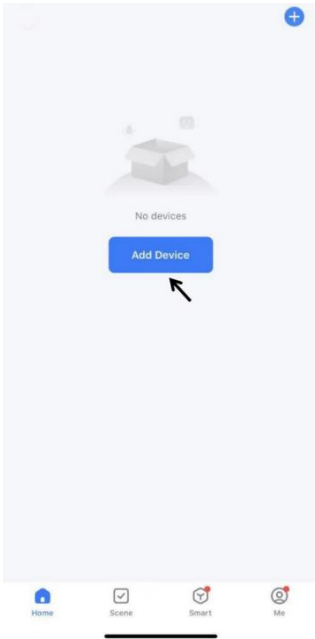

Fig.1
2. Sign up or log in to your account on the APP. Tap the “+” at top right corner or button “Add Device” to add your device. (Fig.1)